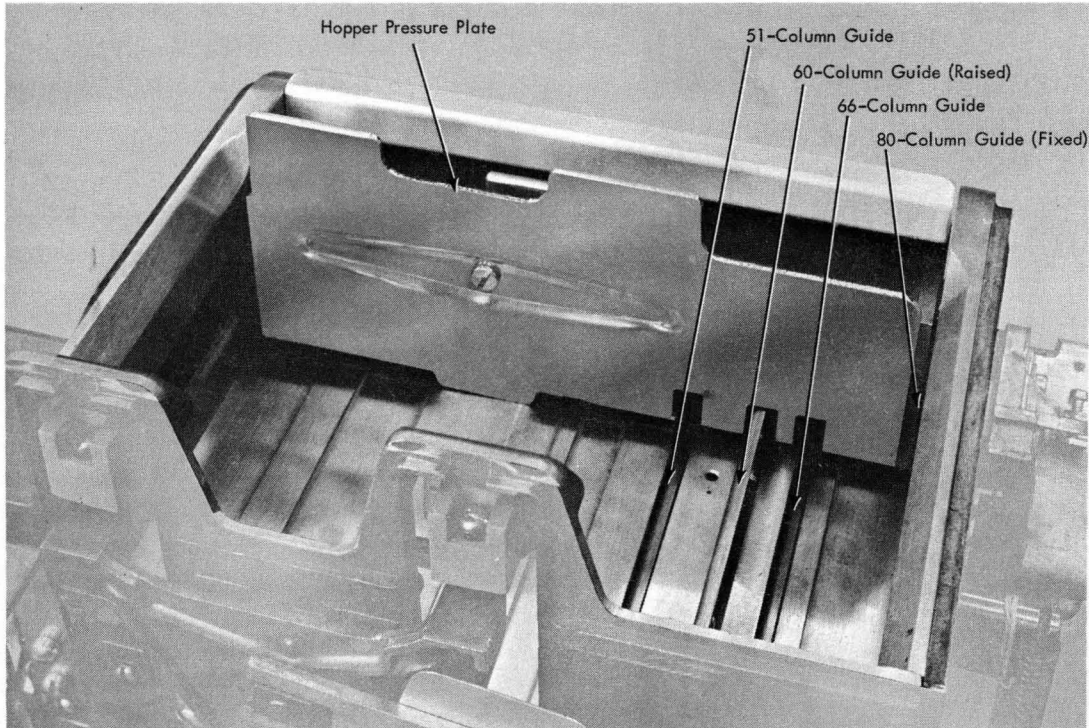

Figure 18. Hopper Card Guides
1. Select the proper card guide in the hopper and lift it forward into position. For any selected card length, all card guides for cards of shorter length must rest in the hopper bed (Figure 18). Note that the 80-column card guide is fixed at the right side of the hopper. The sliding pressure plate in the hopper is notched to pass over the raised card guides.